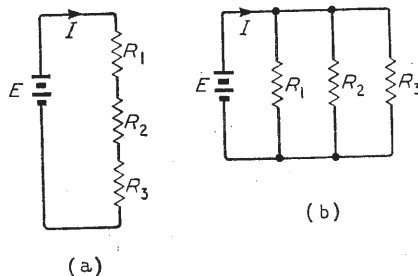

Fig. 1. Although "Ohm's law" is easy to apply to (a) it is slightly less convenient for (b), and its dual is to be preferred.
Above:—Fig. 1. Vectorial representation of the complete SEQUIN signal (for the chrominance system). Correct phase detection,  $(R-Y) \pm Y = R$ , etc.; incorrect phase detection,  $[R-Y \pm \Delta(K_1 - Y')] \pm Y = R \pm \Delta(K_1 - Y')$  etc.
which is also true and sometimes more useful, especially with parallel circuits. Equation (1) is quite suitable for attacking Fig. 1(a), because the total  $R$  is just the sum of all the resistances, so the particularized version of (1) is
But the first time we are confronted with Fig. 1(b) we have to think a bit and finally come up with
As well as dual quantities and dual equations there are such things as dual circuits. You might think that Fig. 1(b) was the dual of (a) because its equation is. But we can see that this is not exactly so if we describe (a) in words and then transform it by using the parallel lists: thus, (a) comprises three resistors all in series with a voltage source. So its dual must be three conductors all in parallel with a current source.
tages—either of the two opposite varieties just mentioned—presumably think it is a good idea, because it indicates both the voltage and its direction (unlike the absurd arrows pointing *both* ways that are still often used) so why not for currents too? Up to that point the line of thought is impeccable, but unfortunately it almost invariably goes astray from there on. The thinker says to himself that if  $V_{ab}$  means the voltage between  $a$  and  $b$  then  $I_{ab}$  should mean the current flowing from  $a$  to  $b$ . He would get away with this in circuits like Fig. 1(a), where the junctions between the resistors might be marked  $a, b, c$ , etc. But what about Fig. 1(b)? There are four currents flowing between the only two circuit junctions and they are probably all different. That will never do, so he finishes up by distinguishing them as  $I_{R1}, I_{R2}$ , etc., sacrificing the indication of direction in the process. All very arbitrary and unsatisfactory.
If only he had remembered the table of duals he would have realized that current is the dual of voltage, so if the voltage subscripts refer to circuit junctions the current subscripts should refer to circuit meshes. This is perfectly specific and unambiguous; the current flowing through, say  $R_1$  in Fig. 1(b), is not specified by the points between which it flows, for three other currents do the same, but it is uniquely specified by the meshes on each side of  $R_1$ . This is not even a revolutionary new idea; it was used for stresses in structures by Bow nearly 100 years ago.